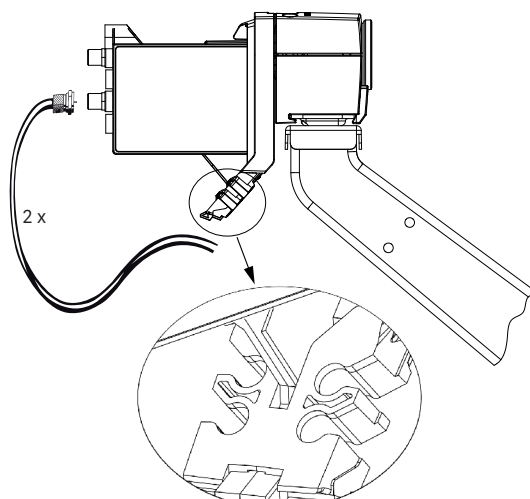

Fig. 5: Cable connection
5. Lead the connected cable forwards and insert side-ways into the cable fastening (see close-up in Fig. 5 below).
6. Slide on the cover until it fits into the groove and locks in the bottom section. Tighten Allen screw (S).